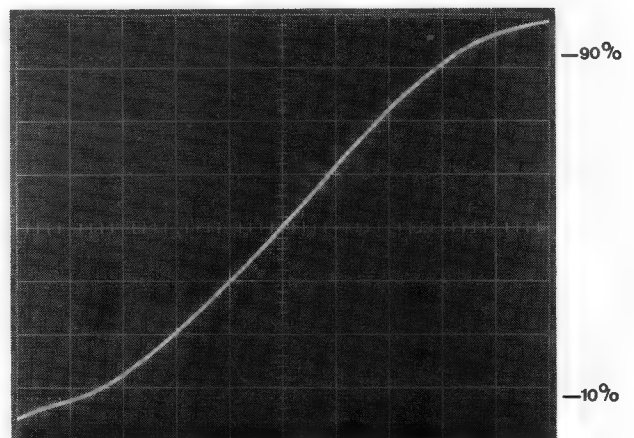

Fig. VII-3 Measuring rise times
- The rise time should cover at least 3 cm of the horizontal scale to ensure accurate measurement (see Fig. VII-3).